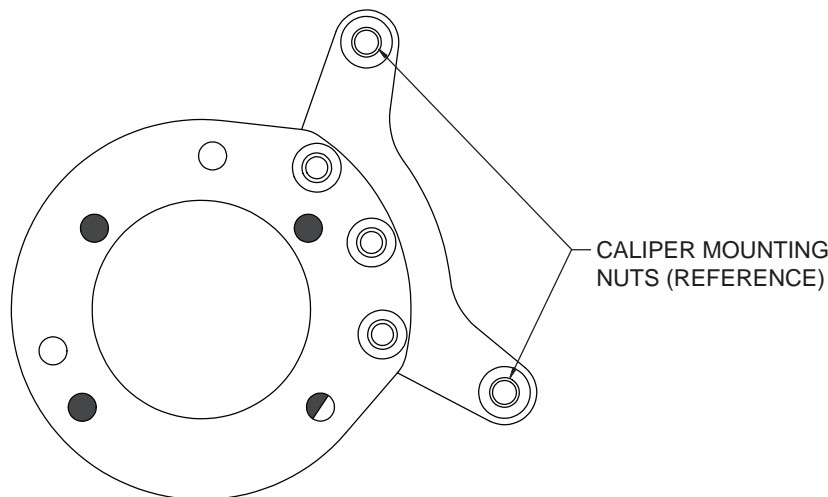
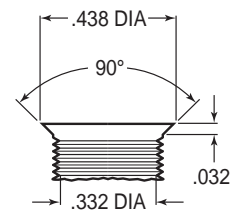

Figure 1. Wilwood Caliper Mounting Bracket
Figure 2. Drill and Tap Detail
This kit has been designed for use with both the disc brake or the drum brake configuration of vehicle. The only difference is in how the Wilwood caliper mounting bracket is installed. The same bracket is used for both configurations; the disc brake version utilizes three mounting holes while the drum brake application uses four mounting holes (see Figure 1). For your convenience we have supplied bolt kits for both applications (see parts list and Figure 4 as necessary). Use the bolt kit that is applicable to your vehicle and disregard the other one.
NOTE: This modification should be performed by a qualified machinist and completed before assembly of the Wilwood disc brake kit begins. Using the caliper mounting bracket as a template (refer to Figure 1 as necessary), locate and verify the three original holes on the spindle that need to be modified. Drill a .332" diameter hole through all three holes, then tap 3/8-24 UNF (fine thread). Countersink the holes to .438" diameter x 90°, as shown in Figure 2.
•**NOTE:** This kit uses the same mounting bracket (1) for both the drum and disc brake spindles. The drum version, Photo 1, uses four mounting bolts (designated "A"), while the disc version, Photo 2, uses three (designated "B"). Refer to Figures 1 and 4 for the basic installation position of the bracket and the "A" and "B" reference designations (not physically marked on the brackets).